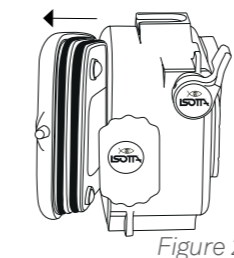

Figure 2
- Remove the Back diagonally, paying attention to the pins located on the side; (fig. 2)